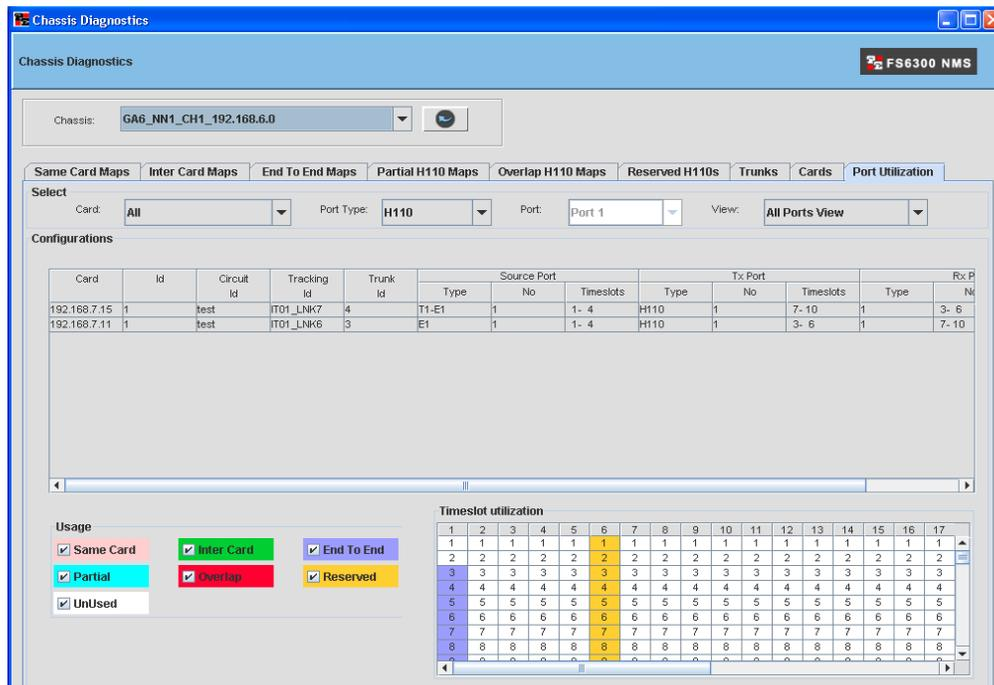

Figure 73. Chassis Diagnostics &gt; Port Utilization tab
- Click on **Map Provisioning** at the top of the screen and select **Chassis Diagnostics**. The **Chassis Diagnostics** window displays (Figure 73 on page 87).